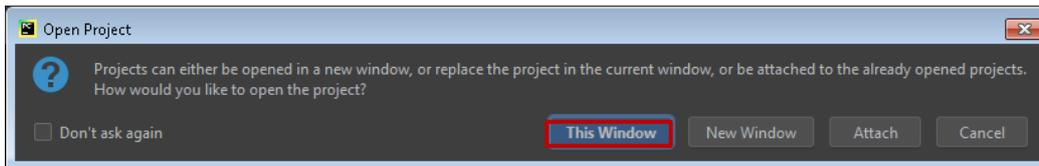

Figure 75 Confirmation window
- ▶ Confirm with 'This Window' in the upcoming pop-up window (see Figure 75)